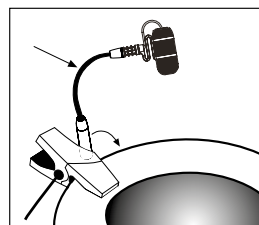

Figure 2
2. Adjust gooseneck and rotary axis to a proper angle for sound pickup. (Figure 2)